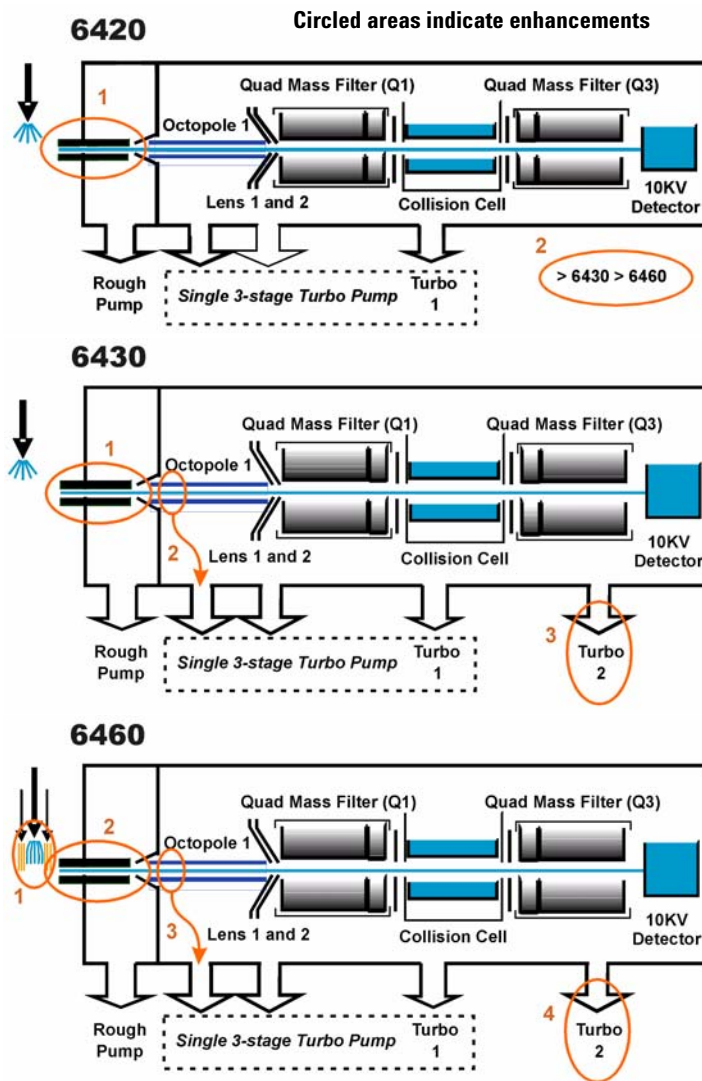
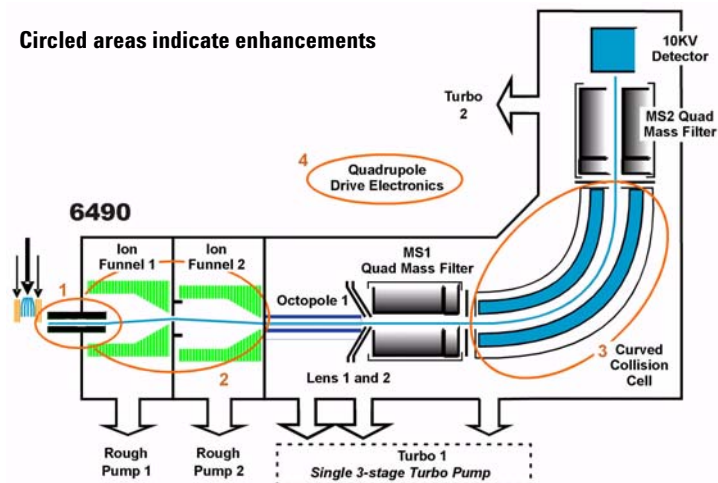

Figure 7 Innovative Enhancements in the 6420, 6430 and 6460
Figure 8 Innovative Enhancements in the 6490
The triple quadrupole mass spectrometer consists of an ion source, enhanced desolvation technology, followed by ion optics that transfer the ions to the first quadrupole positioned to the right of it. A diagram of some of the current Triple Quadrupole LC/MS products is shown in Figure 7 on page 22. The Agilent 6430 is shown in Figure 8 on page 23.
Ions are generated using an electrospray ion source where the analyte is simultaneously ionized and desolvated from the liquid matrix. The first of five (5) innovative Agilent enhancements is found in the application of Agilent Jet Stream Technology (denoted as 1 on the 6460 in Figure 7 on page 22) which improves sensitivity via thermal gradient focusing and enhanced desolvation.
The desolvated ions then enter the mass spectrometer via an innovative resistive and highly inert capillary transfer tube (denoted as 2 on the 6460 in Figure 7 on page 22) that improves ion transmission and allows virtually instantaneous polarity switching.
Further improving the sensitivity is improved pumping in vacuum stage 2 that allows more pumping speed behind the skimmer and improved ion capturing by first octopole (denoted as 3 on the 6460 in Figure 7). The ions next pass through optics and into the first quadrupole analyzer. The quadrupole analyzer consists of four parallel hyperbolic rods through which selected ions based on their mass to charge ratio are filtered.
The ions passing through the first quadrupole analyzer are then directed through an improved collision cell where they are fragmented. The collision cell is typically called the second quadrupole, but in this case, geometrically it is actually a hexapole filled with nitrogen, the same gas that is used as the drying gas. Agilent innovation has led to the design of a collision cell that has axial acceleration for high speed MS/MS analysis (denoted as 4 on the 6460 in Figure 7). Fragment ions formed in the collision cell are then sent to the third quadrupole for a second filtering stage to enable a user to isolate and examine product ions with respect to precursor ions.
Finally, the ions that pass through the third quadrupole are detected using a high energy detector. A second turbo pump has been added (denoted as 5 on the 6460 in Figure 7) to increase pumping speed and improve the vacuum which will further improve the signal to noise and enhance the limit of detection of the triple quadrupole.
- The same resistive capillary transfer tube (denoted as 1 on the 6430 in Figure 7 on page 22)
- Improved pumping in vacuum stage 2 (denoted as 2 on the 6430 in Figure 7)
- A second turbo pump has been added (denoted as 3 on the 6430 in Figure 7)
- The same resistive capillary transfer tube (denoted as 1 on the 6420 in Figure 7 on page 22)
- The 6420 Triple Quadrupole can be upgraded to a 6430 and then to a 6460 Triple Quadrupole. (denoted as 2 on the 6420 in Figure 7 on page 22)